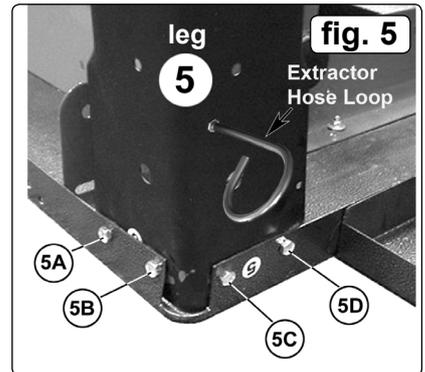

fig. 5
- 4.5** Attach leg 5 as shown in fig.5 using 4 sets of fixings in positions 5A, 5B, 5C & 5D. Attach extractor hose guide to leg 5 at this point, using an 8mm spanner (fig.5)